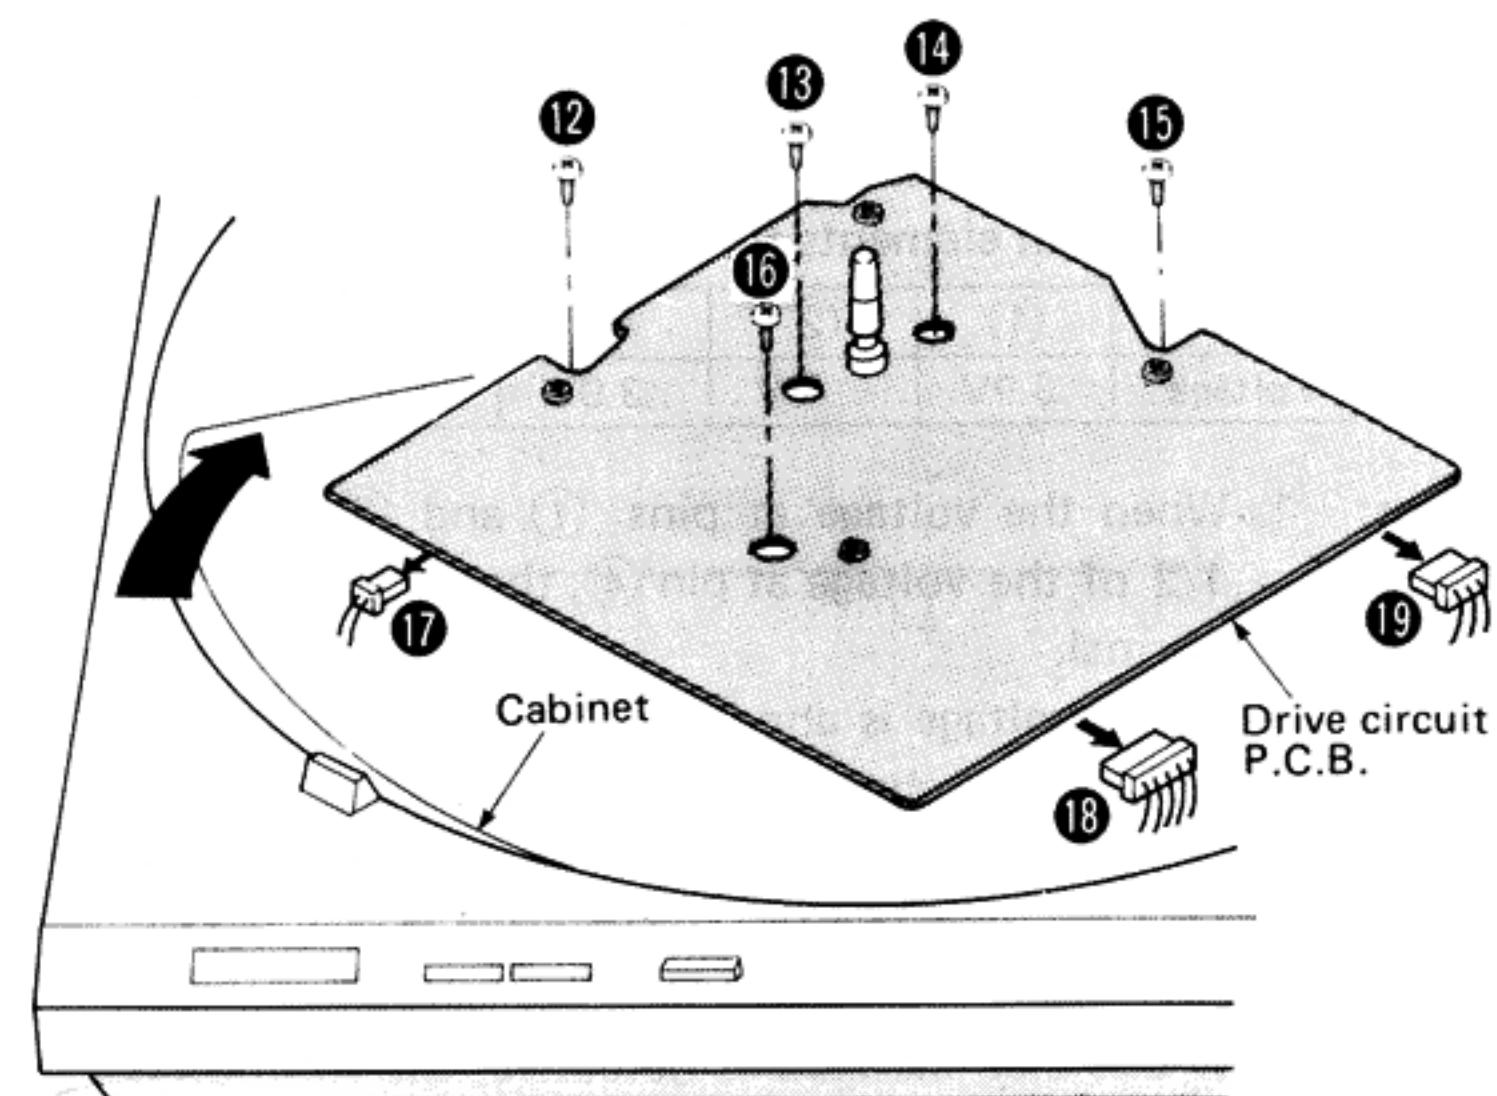

Fig. 5
2. Remove the 5 setscrews (Fig. 5 : ⑫ ~ ⑯) of stator frame.
- Note: Screws ⑫ ~ ⑯ are red.
3. Pull out the 3 connectors (Fig. 5 : ⑰ ~ ⑲) of drive circuit P.C.B.
4. Raise the left-hand side of cabinet (in the direction of the arrow of Fig. 5).